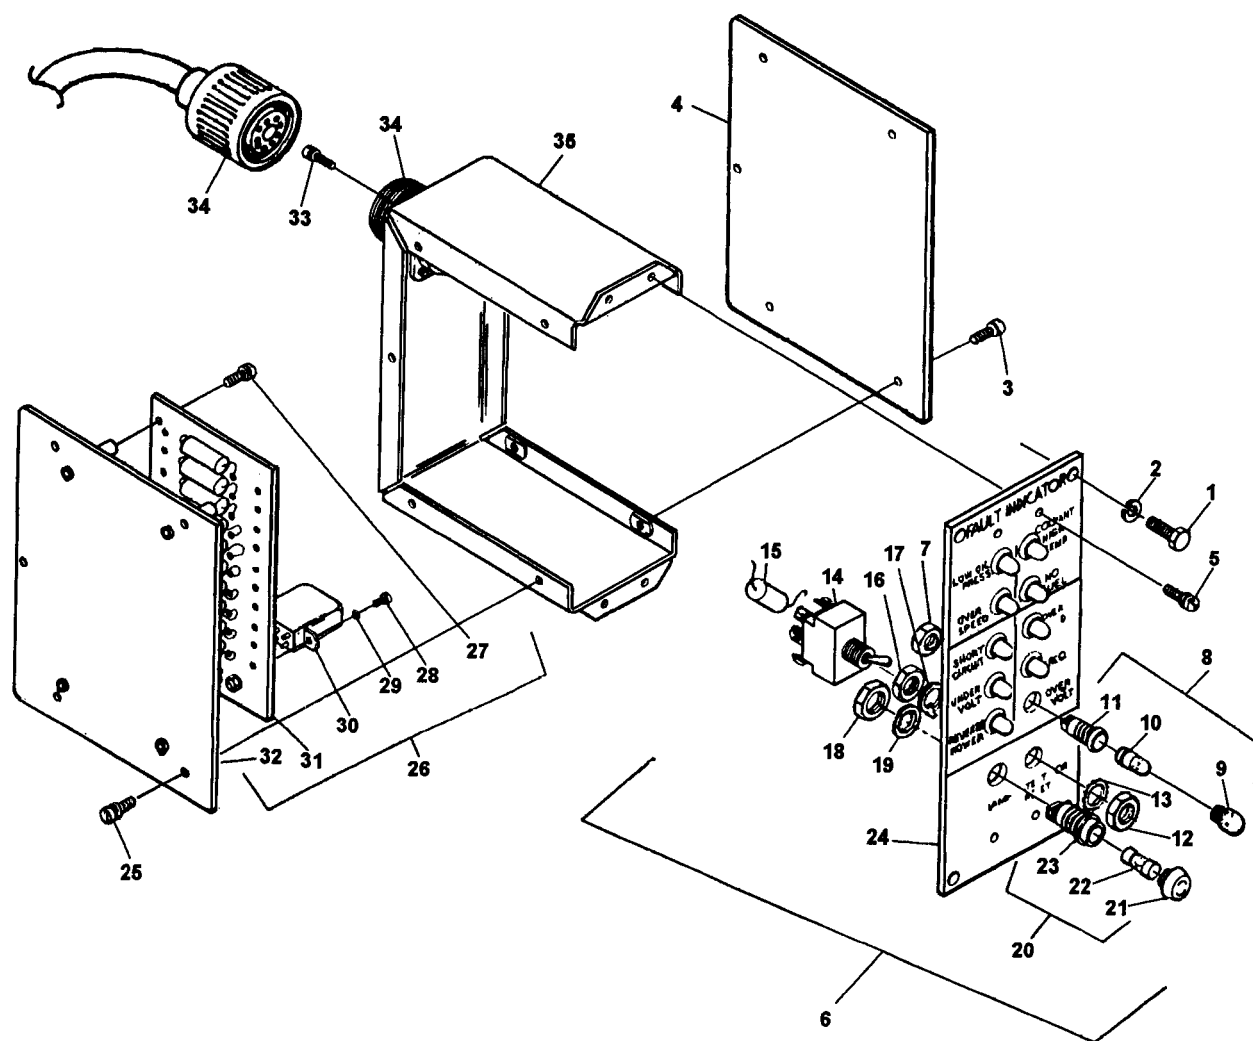

**Figure 4-40. Fault Locating Indicator Lamp and Fuse Replacement**
- (1) Unscrew lens (Figure 4-40) and remove lamp.
- (2) Visually inspect lamp for corrosion, cracked or broken glass, and burned filament.
- (1) Unscrew cap (Figure 4-40) and remove fuse.
- (2) Visually inspect fuse for corrosion, cracked or broken glass, and melted conductor.
- (3) Replace fuse if defective.
- (4) Install fuse and cap.